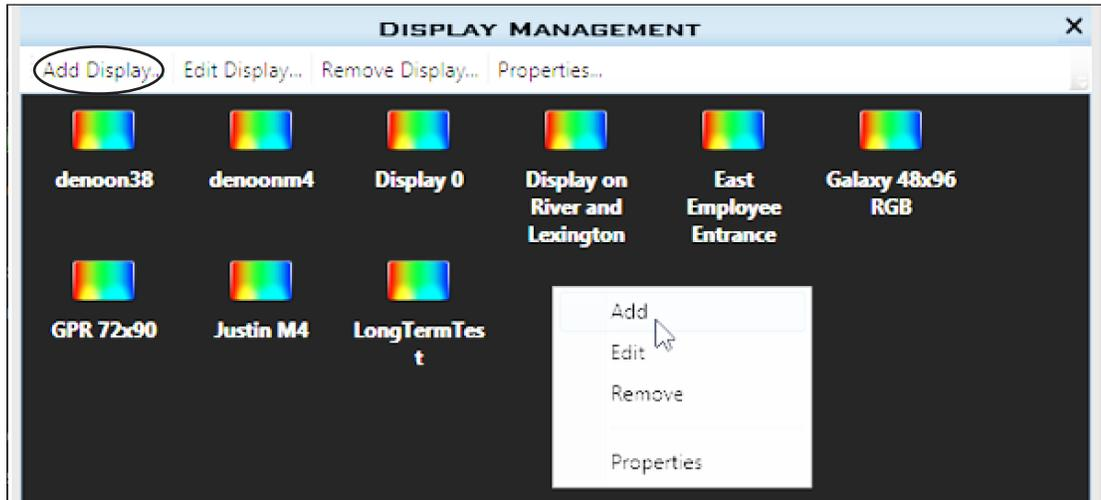

Figure 43: Configure a New Display
- Click **Add Display...** from the **Display Management** window or right-click in the **Display Management** window and select **Add Display....** Refer to **Figure 43**. The software searches for displays on the local network and returns a list of displays.